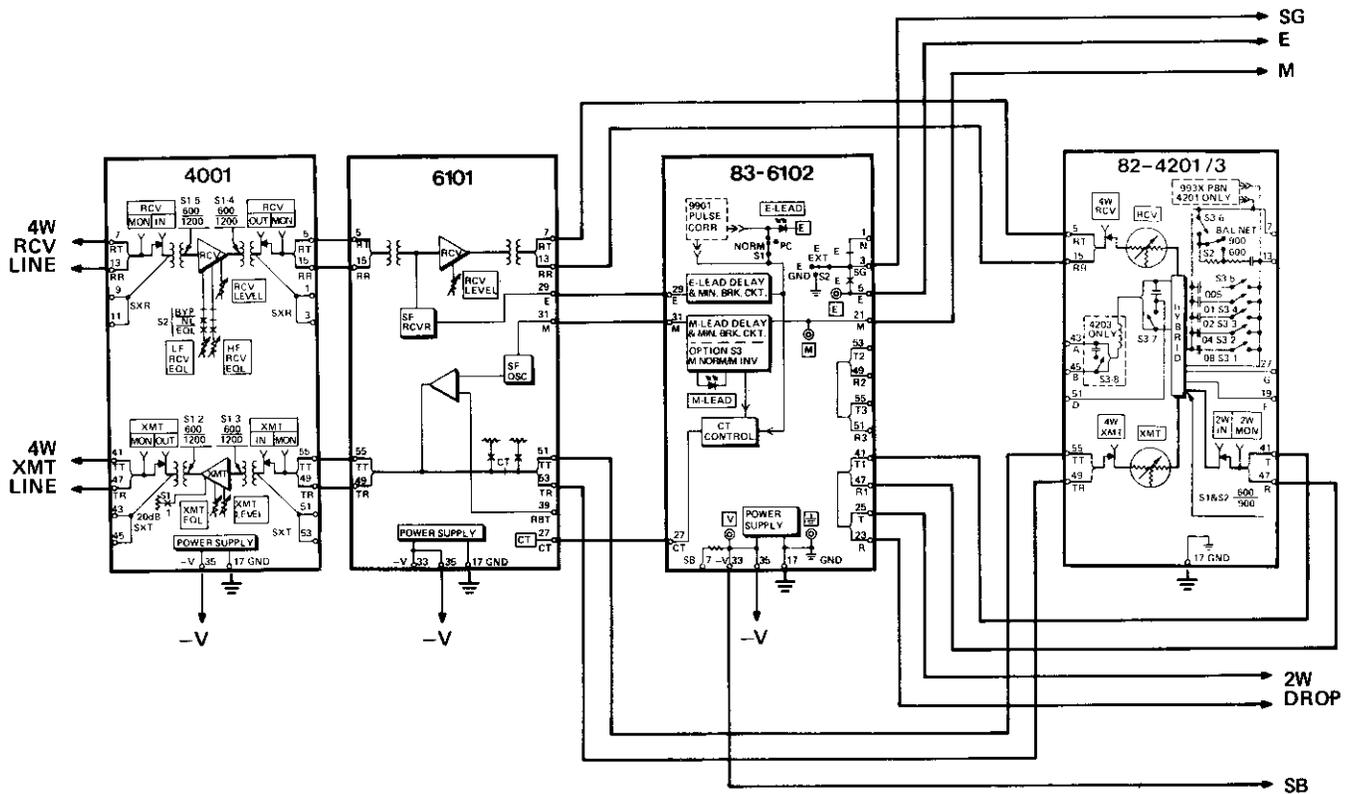

Figure 7. Wiring diagram showing necessary connections for a typical SF signaling application
3.06 A typical application of the 6102 involves its use in an SF signaling and terminating system with a 4001 Line Amp interfacing the facility and a 420X Term Set interfacing the station. Figure 7 shows the connections required in this application. Note that if the 6102 is provided in a Type 260 or 261 Signaling and Terminating System, all necessary connections are prewired as part of the System's universal wiring scheme.